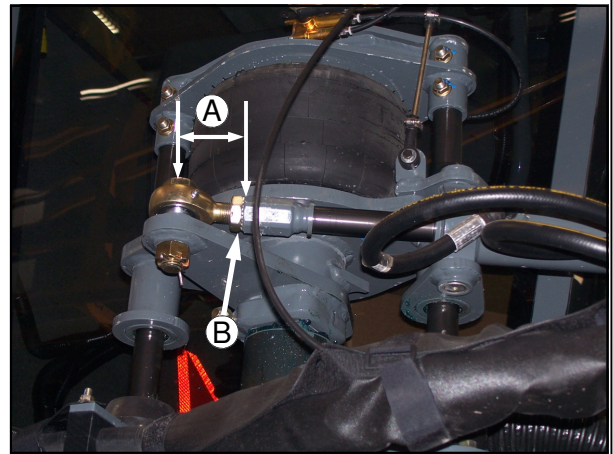

FIG 100-1
2. Loosen jam nut (fig. 100-1, item B).
3. Screw swivel assembly in or out on steering cylinder until the measurement from the center of the rod end to the collar (fig. 100-1, item A) is the same on both of the front steering cylinders.